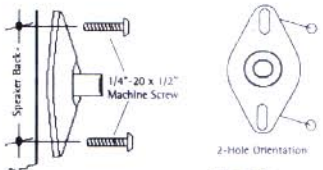

Figure 5
13. Find the best mounting configuration that matches your speaker enclosure. Four-hole speaker mount patterns can be accommodated by positioning the speaker plate diagonally (Figure 5).
14. Using the 1/4" x 20 x 1/2" machine screws, install the speaker plate and secure the speaker enclosure (Figure 5).